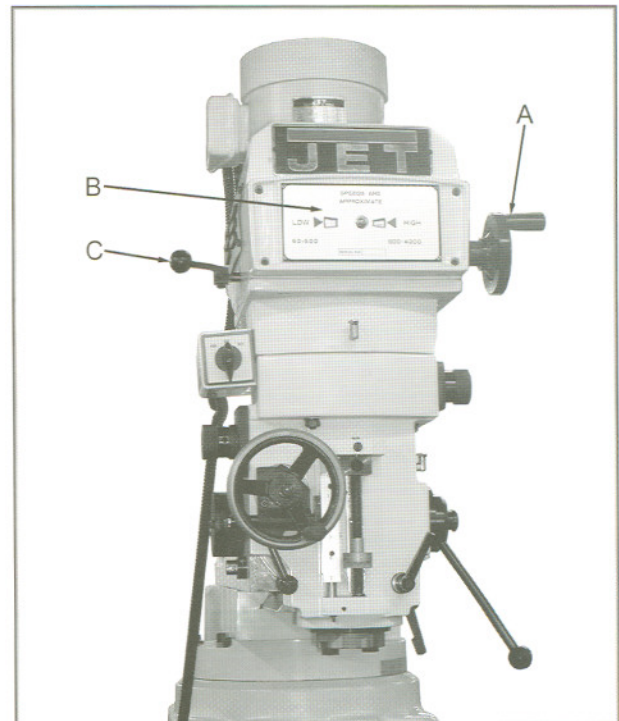

Fig. 3
- A. **Variable Speed Control** (A, Fig. 3) - located on the right side of the head assembly. Turn clockwise or counter-clockwise to adjust spindle speed.
- B. **Variable Speed Dial Indicator** (B, Fig. 3) - located on the front of the head assembly. Indicates selected speed in high, or low range.
- C. **Spindle Brake** (C, Fig. 3) - located on left side of the head. Move in either direction to stop spindle once power has been turned off.